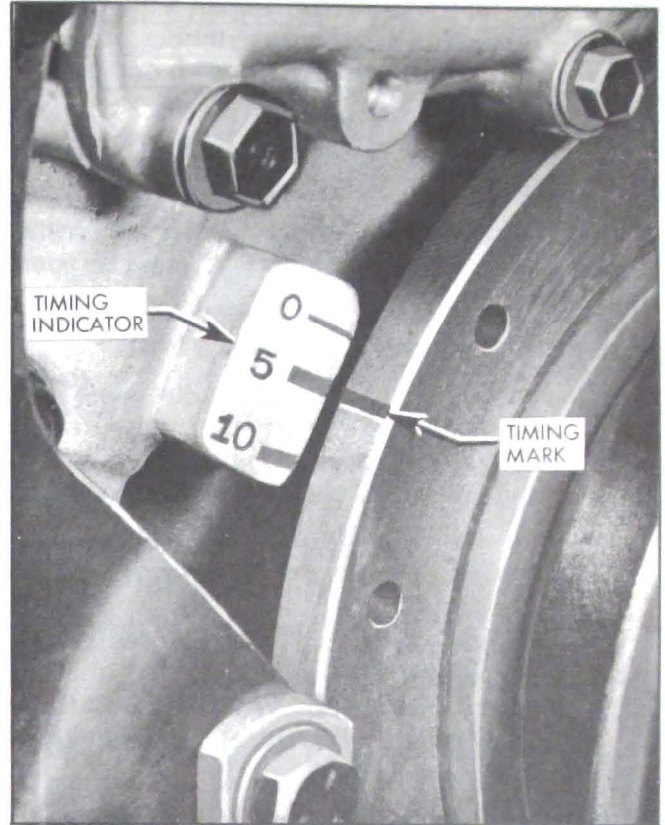

Figure 10-33—Ignition Timing Mark and Indicator
The timing mark is a groove filled with yellow paint, which is on the rear edge of the harmonic balancer. The timing indicator, a part of the timing chain cover, has three ridges outlined with yellow paint. These ridges indicate U.D.C. (marked "0"), "5" degrees, and "12" degrees before U.D.C. See Figure 10-33.
1. With left rocker arm cover removed, rotate crankshaft in a forward direction using a suitable wrench on the harmonic balancer to crankshaft bolt. Continue rotation until both valves for No. 1 cylinder are completely closed and the timing mark on balancer is aligned with the proper mark on timing indicator. See Figure 10-33. No. 1 cylinder is now in position to fire.